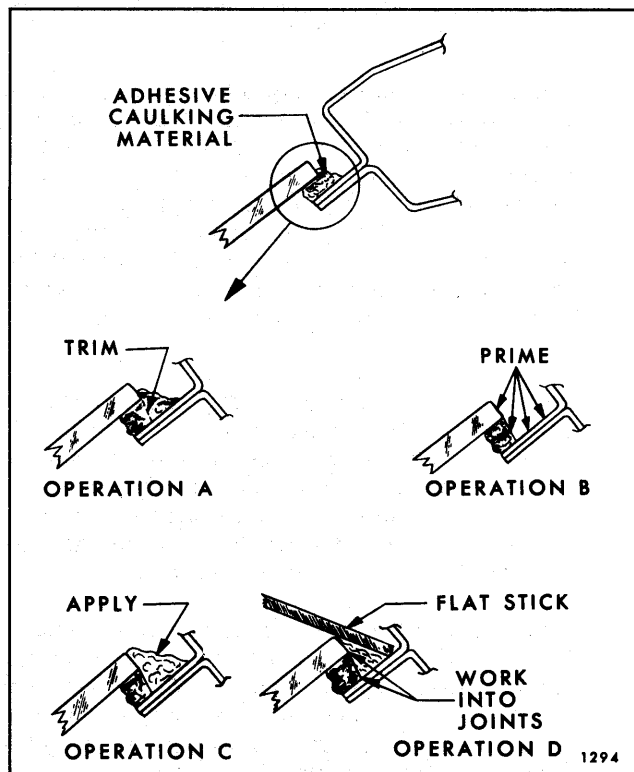

Fig. 4-10—Adhesive Glass Waterleak Correction
4. Using a sharp knife, trim off uneven edge of adhesive caulking material (see Operation "A" Fig. 4-10) at leak point and 3 to 4 inches on both sides of leak point or beyond limits of leak area.
5. Using a small brush, apply adhesive caulking material primer over trimmed edge of adhesive caulking material and over adjacent painted surface (see Operation "B" Fig. 4-10).
6. Apply adhesive caulking material, as shown in Operation "C" (Fig. 4-10), at leak point and 3 to 4 inches on both sides of leak point or beyond limits of leak area.
7. Immediately after performing step 6, use flat stick or other suitable flat-bladed tool to work adhesive caulking material well into leak point and into joint of original material and body to effect a watertight seal along entire length of material application (See Operation "D" Fig. 4-10).